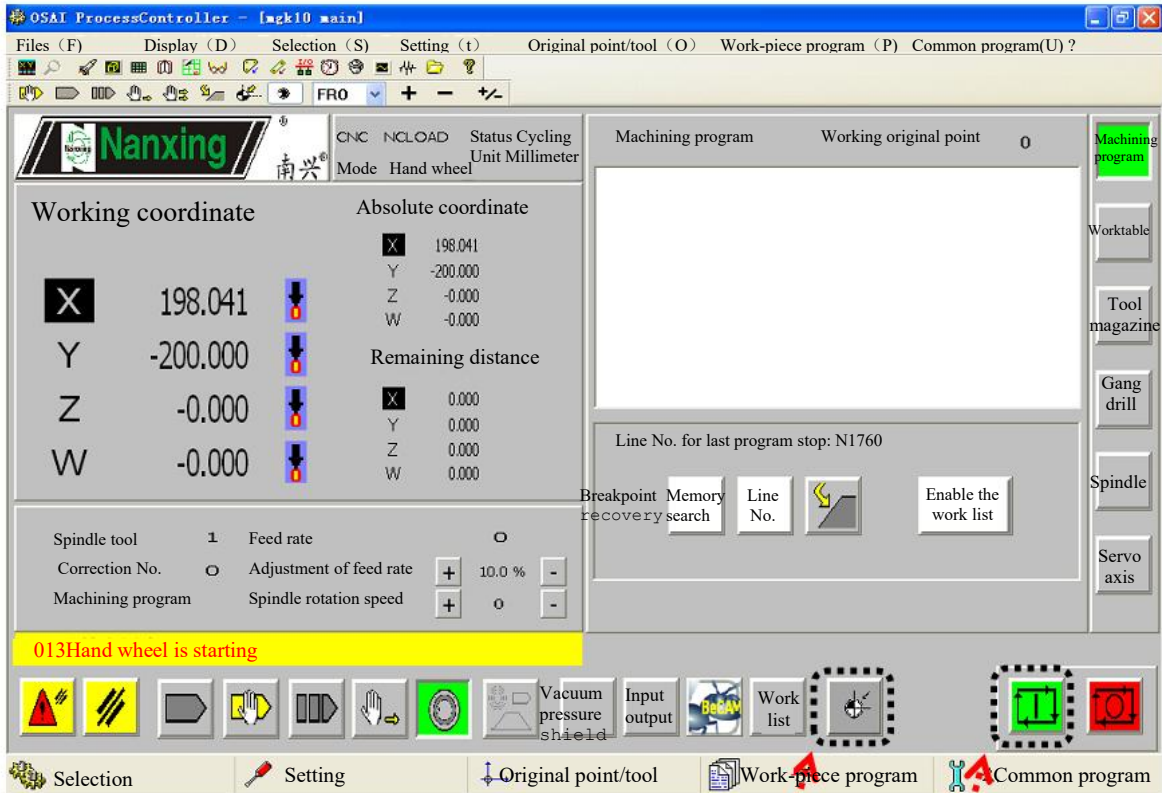

Fig. 6.5
1. Click  (Automatic zeroing), as shown in Fig.6.5